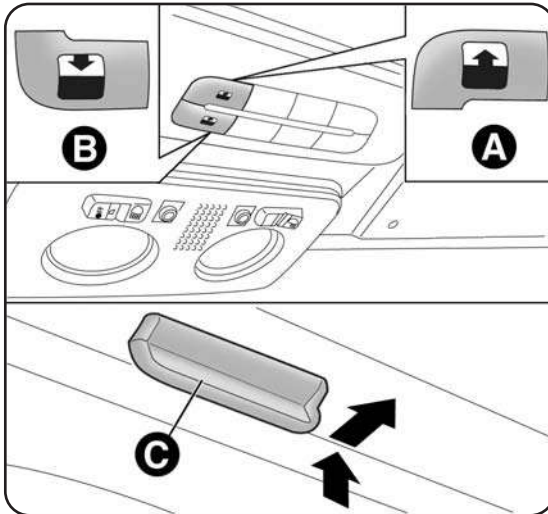

fig. 53
The large electric sun roof comprises two glass panels; the front one is mobile and the rear one fixed. These are equipped with two sun blinds (front and rear) that can be moved manually. With the sun roof closed, the blinds can be placed in any position. To open the blinds: grip handle C - fig. 53, and move the blind to the required position by following the direction of movement shown by the arrow. To close them, carry out the procedure in reverse. The sun roof can be operated only with the ignition key turned to MAR. The controls A-B fig. 53 on the front courtesy light trim operate the roof opening/closing functions.
Press and hold down button B - fig. 53. The front glass panel will move into the spoiler position; press button B once again and hold down for more than half a second to automatically move the sun roof to an intermediate position ("Comfort" position). If the opening control is pressed again for more than half a second, the roof will automatically continue until it reaches the end of travel position; the roof glass can be stopped in an intermediate position by operating the button again.
With the roof in the fully open position, press button A - fig. 53 and, if the button is operated for more than half a second, the front roof glass will automatically assume the intermediate position (comfort position).
- press button A - fig. 53 until the sun roof is completely closed. Release the button;